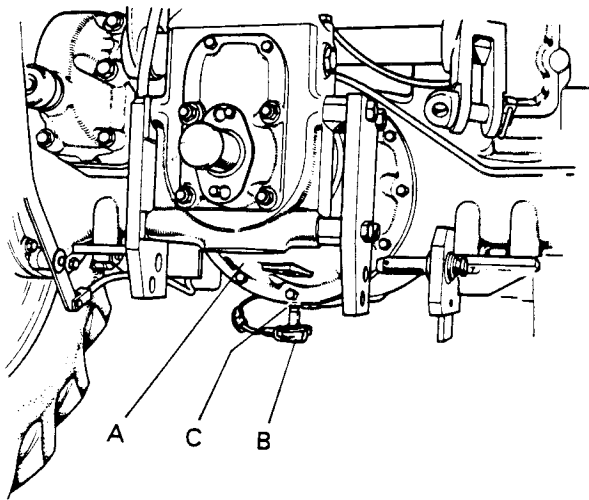

Figure 36. REMOVING OIL FILTER SWITCH ADAPTOR
**Caution:** Tractors with a hydraulic filter warning lamp have a switch for this lamp under the PTO unit and it is necessary to remove switch adaptor from PTO case before PTO unit can be withdrawn. (Fig. 36.)
*Caution:* Tractors with a hydraulic filter warning lamp have a switch for this lamp under the PTO unit and it is necessary to remove switch adaptor from PTO case before PTO unit can be withdrawn. (Fig. 36.)